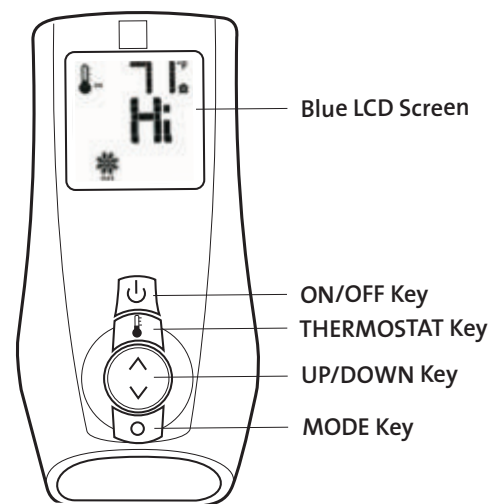
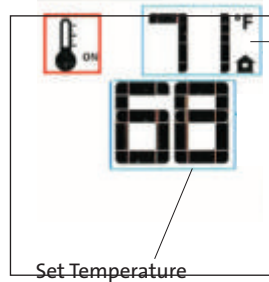

Figure 7.2. Remote transmitter function keys.
Figure 7.10. Thermostat ON
The Transmitter features a simple button layout and informative display screen. See figs. 7.2 - 7.3.
- To activate this function, press the Thermostat Key, (Fig. 7.2) The display will indicate that the room thermostat is "ON" and the current Set Temperature is now displayed. Fig. 7.10.
The fan speed can be adjusted through six settings. To activate this function, press the Mode Key (Fig. 7.2) to index to the Fan Control icon. See fig. 7.14. The fan will not function at all if it is not first set to ON.